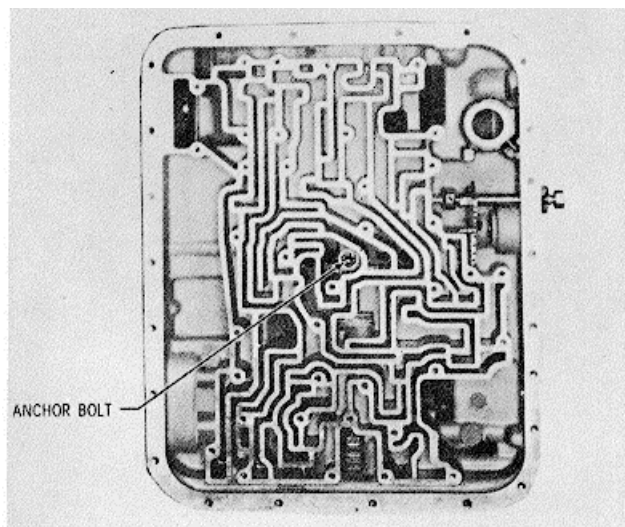

Fig. 7-39 Center support anchor bolt
(10) Tighten the center support anchor bolt to 39 to 46 pound feet (53 to 62 Nm) torque (fig. 7-39).